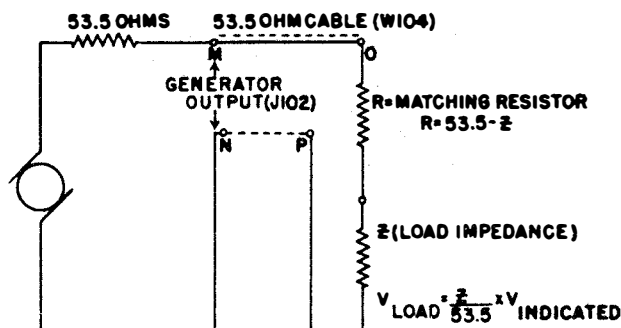

Figure 2-12. Equivalent Circuit of X MULT RF OUTPUT (J-102) with Series Matching Resistor Added
g. When the load impedance is less than 53.5 ohms, the impedance adapter cannot be used. In this case, a non-inductive composition resistor should be added in series with the input element at the receiver under test, so that the sum of the receiver input impedance and this resistor will be 53.5 ohms (See figure 2-12). The total load impedance will then match the signal generator impedance at J-102 and standing waves will be minimized. The actual receiver input voltage can then be calculated from the formula indicated in figure 2-12. When applying this procedure, it will probably be necessary to file down a larger standard resistor to get the precise value required. Use the Resistance Bridge ZM-4/U or equivalent to measure the resistance. For example; if the load impedance of the receiver (Z) is equal to 30 ohms, a series resistor (R) of 23.5 ohms must be added in series with the receiver. A meter (M-101) indication of 10,000 microvolts will then represent an actual receiver input as follows: